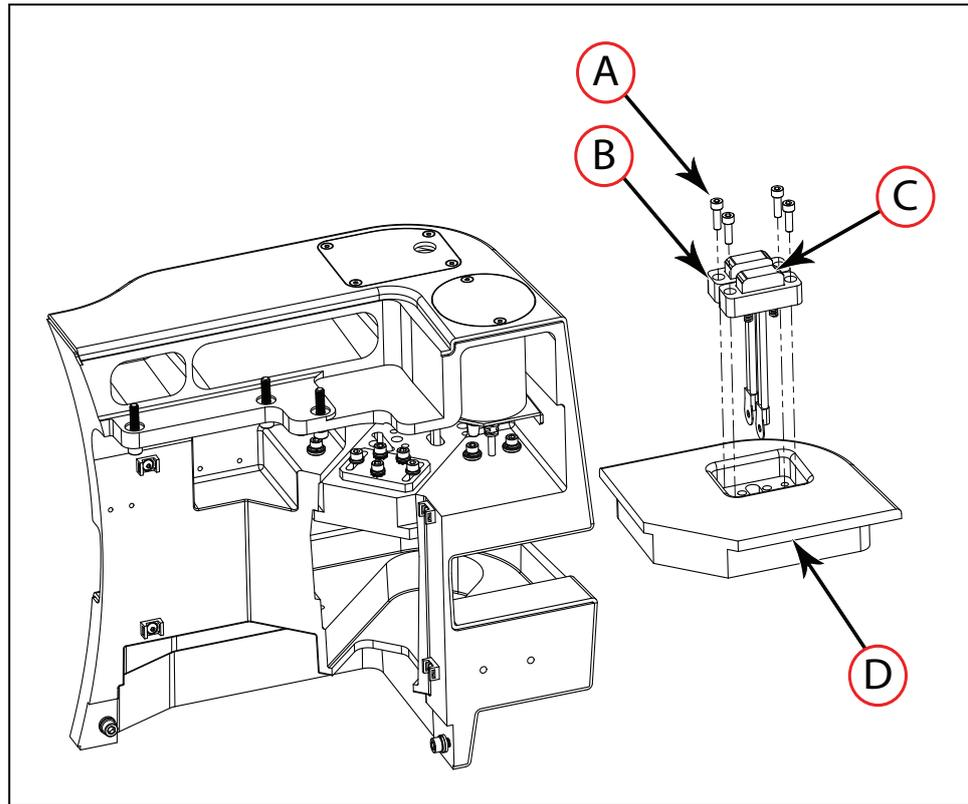

Figure 8-45. (A) M5 Screw, (B) Contact Holders, (C) Charging Contact, and (D) Base Plate
2. Next, unscrew all four M5 screws ((A) in Figure 8-45. that attach the contact holders ((B) in Figure 8-45. to the base plate ((D) in Figure 8-45.
Retain the screws for installing the new charging contacts ((C) in Figure 8-45.